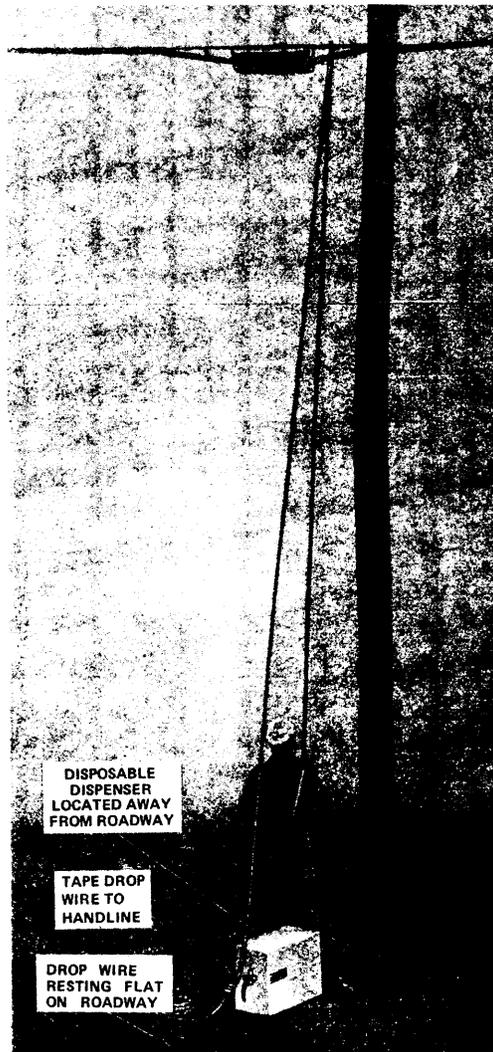

Fig. 5 - Handline Taped to Drop Wire
- (e) Release the handline from the base of the pole or ladder. Estimate the amount of drop wire needed to reach the terminal. Cut the drop wire and tape the end of the drop from the building to the handline. (Fig. 5).